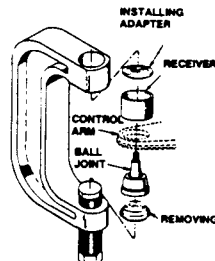

FIGURE 2
2. Position the press over the control arm. Select the correct size receiver tube and installation adapter on top of the ball joint and removing adapter under the ball joint. Align all components and tighten forcing screw until ball joint is seated. *Figure 2*.